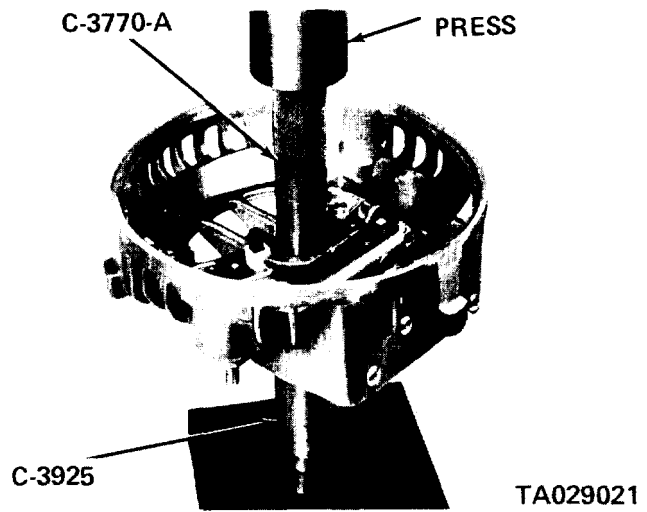

Figure 14-12. Removing Rectifier End Shield Bearing.
(5) The needle roller bearing in the rectifier end shield is a press fit. If it is necessary to remove the rectifier end frame needle bearing, protect the end shield by supporting the shield with tool C-3925 when pressing the bearing out with tool C-3770-A (figure 14-12).